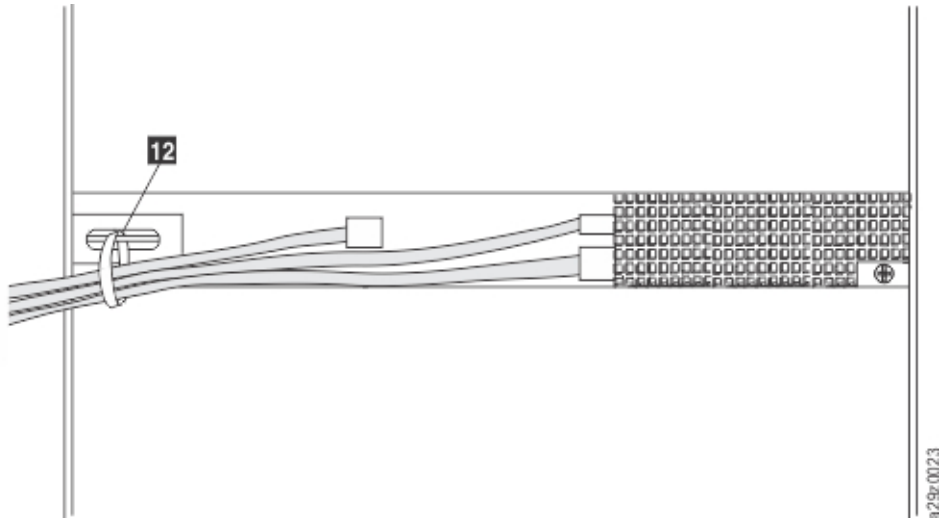

Figure 17. The cables at the rear of the library
10. Run the SAS cable, power cable, and Ethernet cable through the hook-and-loop fastener strap **12**. Leave enough slack to reach the corresponding connectors, then tighten the strap (Figure 17 on page 25).